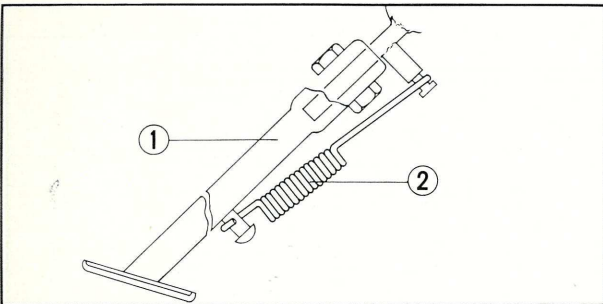

Fig. 2-62 ① Side stand ② Spring
6. Hook side stand spring as in Fig. 2-62.